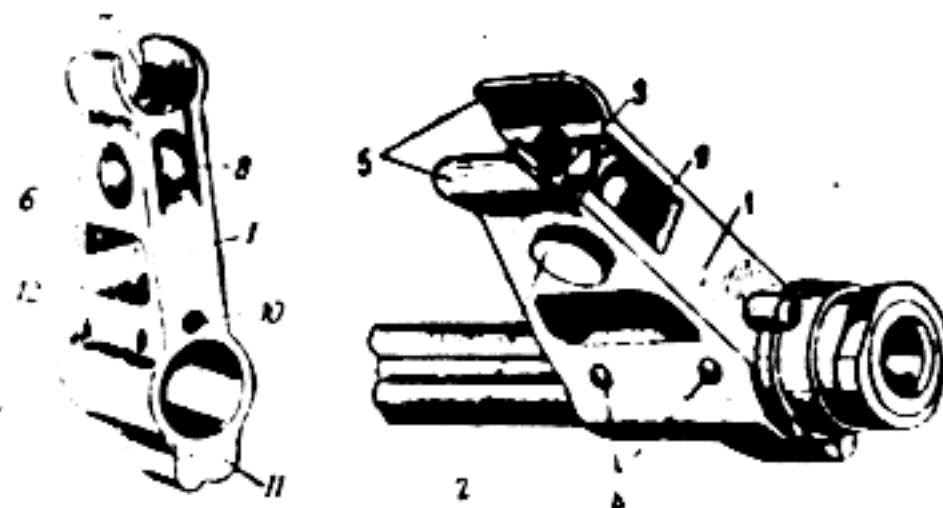

Figure 20. Front sight base, assembled.
The front sight base and front sight (fig. 20). The front sight (3) is threaded into the stud (2), which is located in the front sight base (1).
The front sight safety (fig. 20) protects the sight from blows and improves sighting conditions.